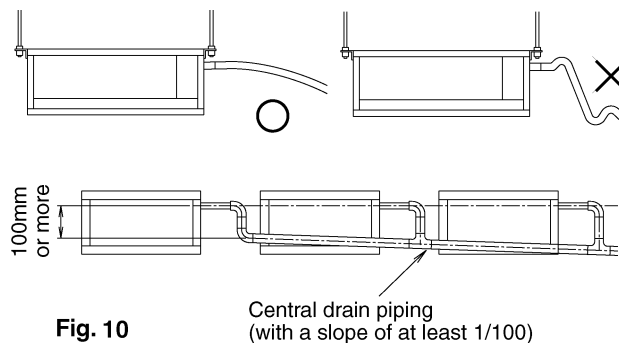

Fig. 10
- Keep the drain pipe short and sloping downwards at a gradient of at least 1/100 to prevent air pockets from forming. (Refer to Fig. 10)
- Do not twist or bend the drain hose (2), so that excessive force is not applied to it. (This type of treatment may cause leaking.)
- If you are using central drain piping, follow the procedure outlined in the figure 10.